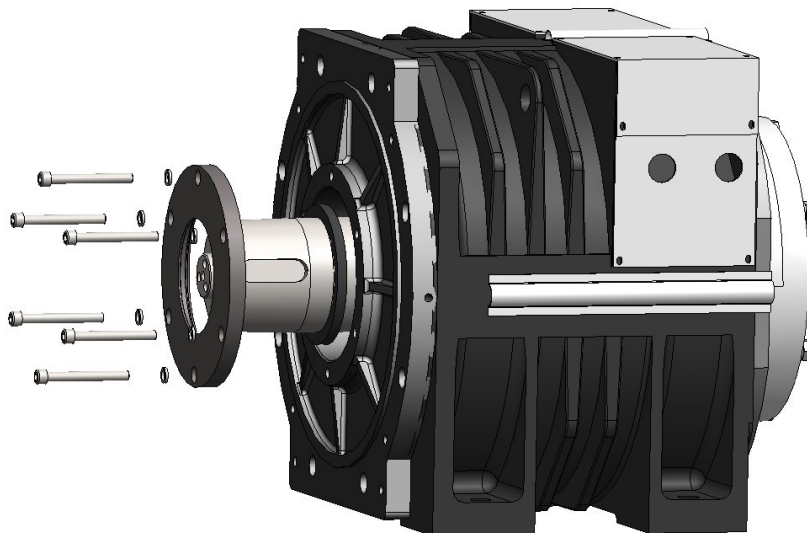

Figure 78 Remove Outer Cover
4. Loosen the bolts M12x105 (6 pieces) with hex wrench (10mm), and take off the Outer Cover. See Figure 78.